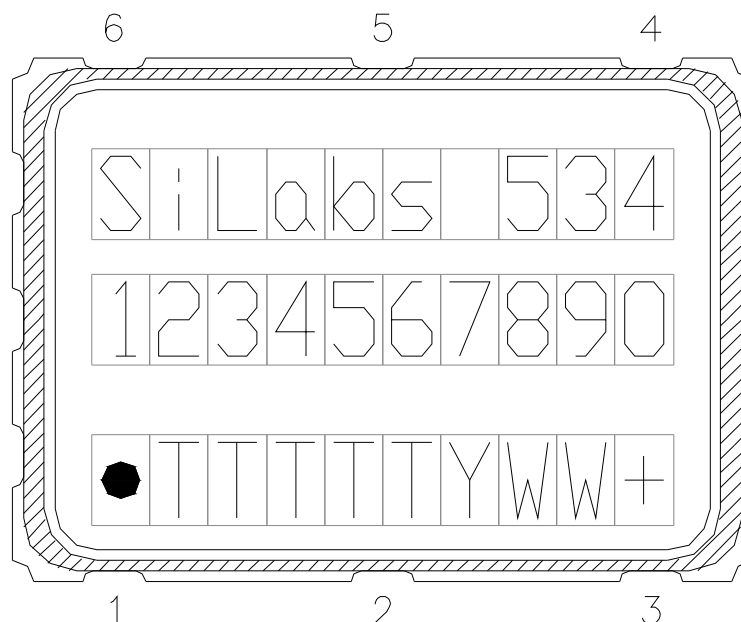

Figure 3. Mark Specification
Figure 3 illustrates the mark specification for the Si534. Table 12 lists the line information.
- Updated Figure 3 and Table 12 on page 9 to reflect specific marking information. Previously, Figure 3 was generic.